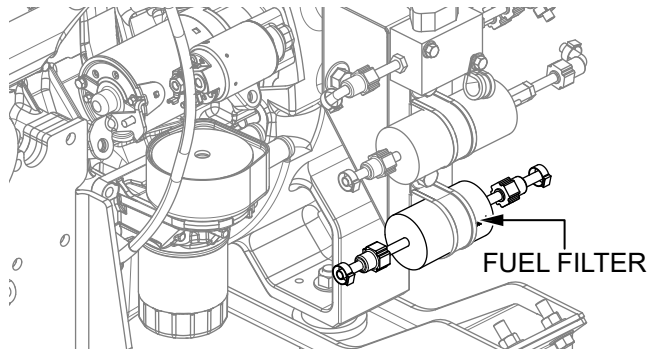

Figure 63. Fuel Filter
1. Replace the engine fuel filter (Figure 63) every 200 hours of operation.